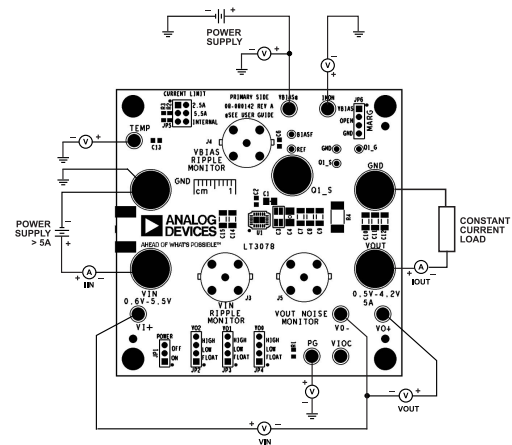

Figure 2. Proper Measurement Equipment Setup for the EVAL-LT3078-AZ
To use the EVAL-LT3078-AZ to evaluate the performance of the LT3078, and for the proper measurement equipment setup, see Figure 2 and do the following steps:
1. With the input supplies off and turned down and the load turned down, make all the connections shown in Figure 2. Ensure that the VO2, VO1, and VO0 jumpers to set VOUT are in the proper positions for the required VOUT according to the V_{OUT} selection matrix table in the LT3078 data sheet. In addition, ensure that the POWER jumper (JP1) is in the **ON** position, the CURRENT LIMIT jumper (JP5) is in the **5.5A** position, and the MARG jumper (JP6) is in the **OPEN** position.